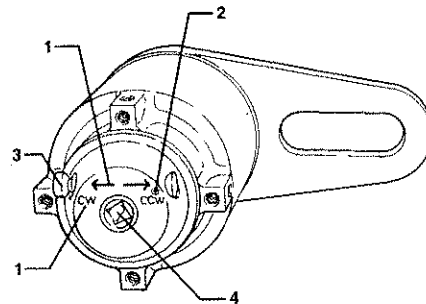

Figure 2. Input End Detail
- 6.6 Apply torque with torque wrench until desired input torque is achieved. **To remove torque multiplier from fastener:** Apply enough input torque to release internal anti-backlash device, then push selector pawl (Fig. 2 Item 3) into opposite position (**EXAMPLE:** If selector pawl is in the clockwise CW position for tightening, apply input torque in the CW direction to relieve force on the pawl. While maintaining input torque in the CW direction, slide pawl into the CCW direction for release) and slowly relax input torque. Never strike selector pawl to release or change directions. (See  Warnings)
- 7.1 If you decide to use a **non-impact** power drive to speed up the process of tightening or loosening fasteners, you **MUST** remember to lock the selector pawl in the neutral position. Center the selector pawl (Fig. 2 Item 3) between the CW/CCW range of the travel and tighten the setscrew (Fig. 2 Item 2). When properly positioned, the screw will be seated in a groove in the selector pawl, so the pawl cannot be moved in either direction. Take care that the power drive is set to deliver no more than the maximum allowable input torque. A lightweight, reversible air motor is available for use with this line of multipliers. When equipped with the optional air pressure regulator, torque output can be controlled.